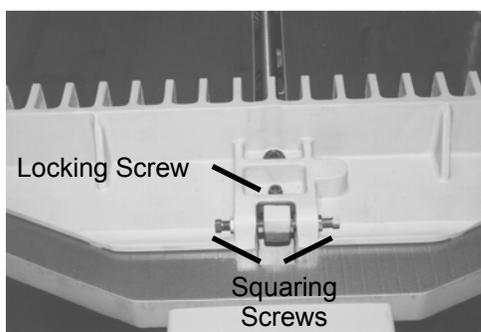

Figure 24
4. Loosen backgauge locking screw (smaller head). Loosen the jam nuts on the backgauge squaring screws (see Figure 24).